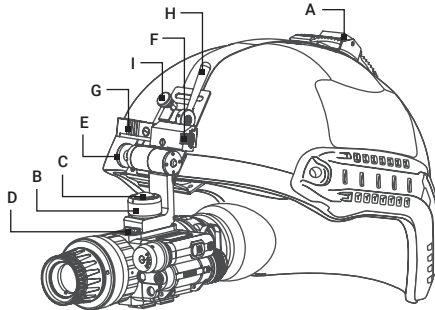

FIGURE 2-3. MOUNTING THE WOLF 14 TO A HELMET
Mount the Wolf 14 to a helmet as follows (refer to Figure 2-3):
In Figure 2-3, the Wolf 14 is shown in the correct position for the left eye. To readjust the Wolf 14 for the other eye, reverse its positioning and reinstall it on the helmet mount bracket (see Figure 2-3). Use the second unit rail located on the opposite side of the unit. Push the button (F) and move the unit along the slide-rail (G) until the most comfortable position is reached.